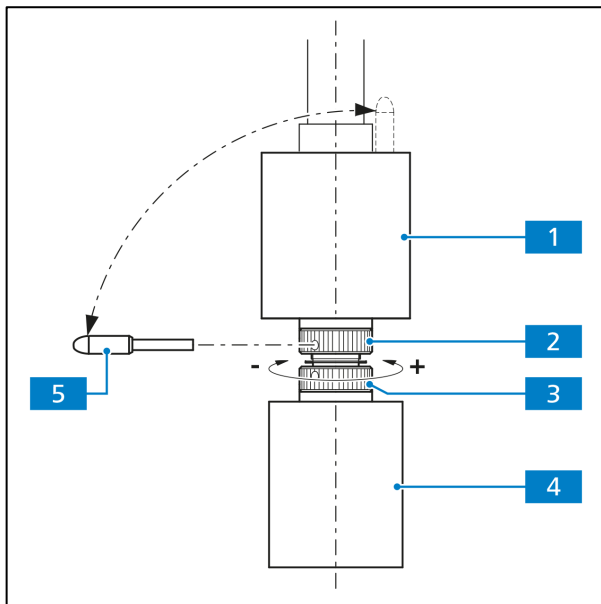

Fig. 3-15 Adjusting the frictional momentum
The drive length of the X- and Y-drive can be adjusted by an axial shift of the coaxial knurled knob (Fig. 3-15/4 and 1) within a range of approx. 15 mm.
- Slide the coaxial knurled knob for the X-adjustment (Fig. 3-15/4) all the way down.
- Take the enclosed adjustment pin (Fig. 3-15/5) out of the coaxial knurled knob for the Y-adjustment (Fig. 3-15/1) and stick it into one of the holes on the lower hole nut (Fig. 3-15/3).
- Hold the coaxial knurled knob for the X-adjustment (Fig. 3-15/4) and turn the hole nut with the adjustment pin clockwise (lower frictional torque: -) or counterclockwise (higher frictional torque: +) until you reach the desired level of friction (see Fig. 3-15).
- Slide the coaxial knurled knob for the Y-adjustment (Fig. 3-15/1) all the way up.
- Stick the enclosed adjustment pin (Fig. 3-15/5) into the hole on the upper hole nut (Fig. 3-15/2).
- Hold the coaxial knurled knob for the Y-adjustment (Fig. 3-15/1) and turn the hole nut with the adjustment pin clockwise (lower frictional torque: -) or counterclockwise (higher frictional torque: +) until you reach the desired level of friction.
- Replace the adjustment pin in the coaxial knurled knob for the Y-adjustment (Fig. 3-15/1).